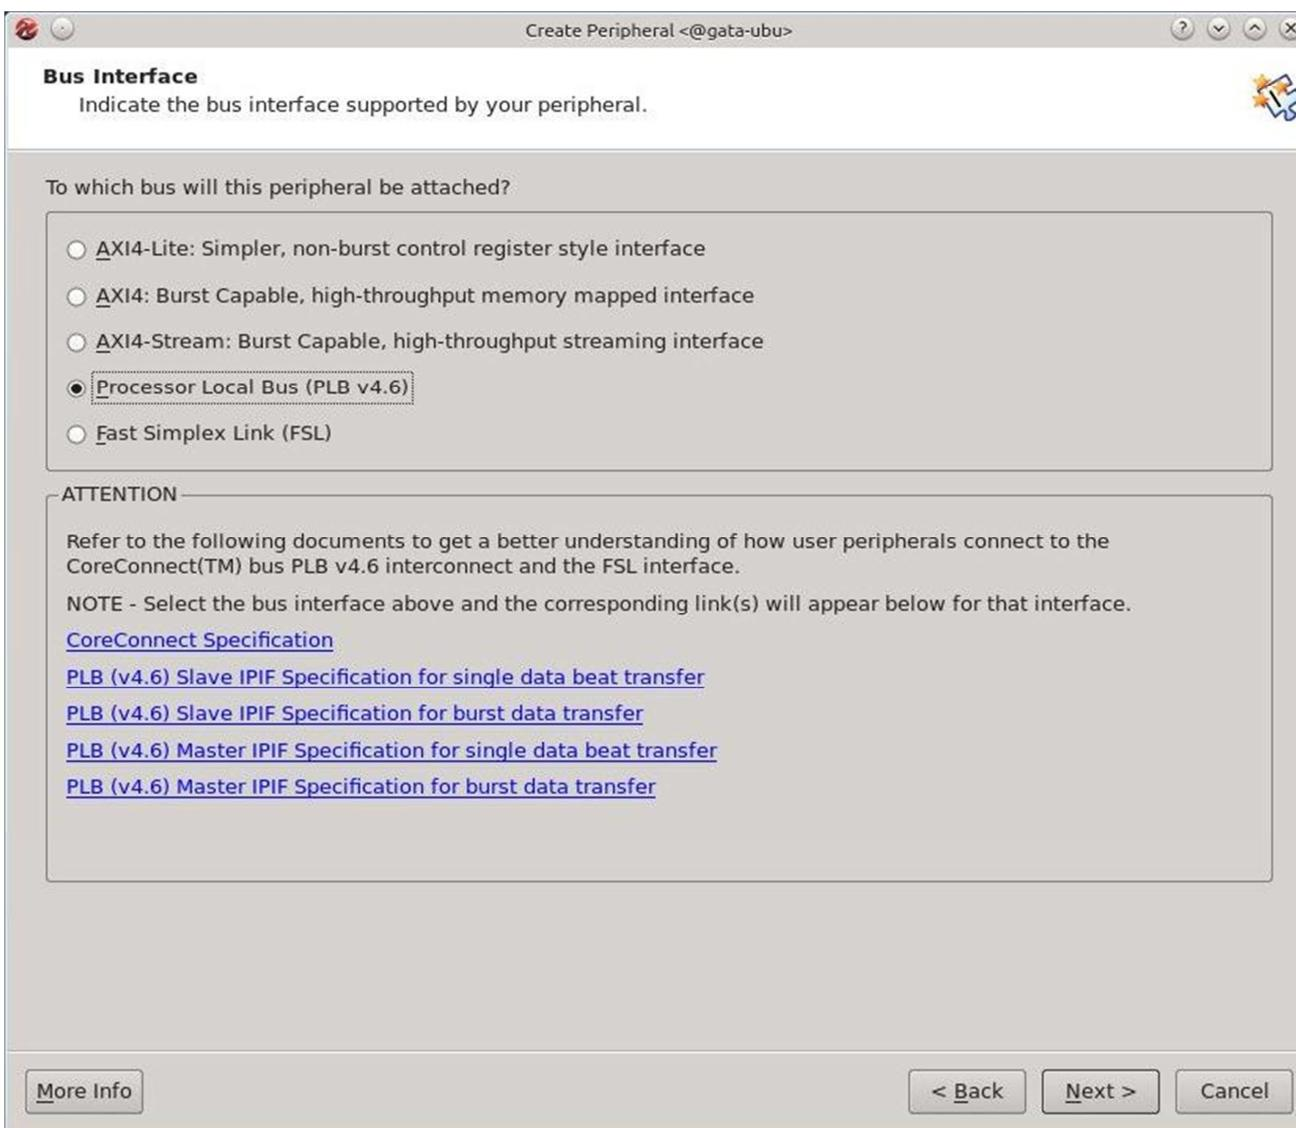

Figure 6: Create and Import Peripheral Wizard (Step 5)
**Step 5:** In this step you are required to select the interface type for your peripheral. Xilinx EDK supports 3 types of interface standards in its embedded systems. The first and the newest one is the AXI4 architecture which is designed for various types of communication strategies. The second type is the “**Processor Local Bus (PLB 4.0)**” which is a standard bus architecture to connect Microblaze and its peripheral in a shared bus structure. This bus standard will be used in this tutorial. The last interface type is the “**Fast Simplex Link (FSL)**” which is a dedicated FIFO link between the processor and the peripheral. The Microblaze supports a limited number of FSL links but this communication channel guarantees the fastest communication between the peripheral and the processor. Select the “**Processor Local Bus (PLB 4.0)**” as shown in **Figure 6** and then press “**Next**”.